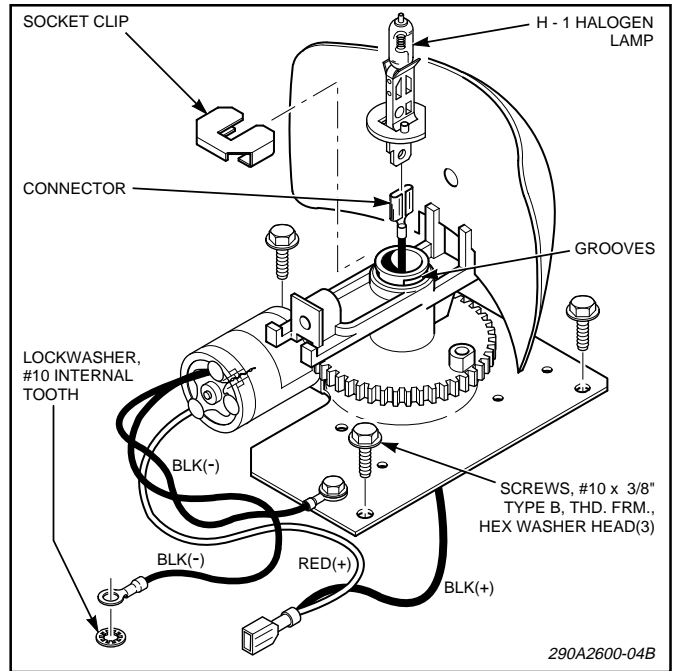

Figure 3.
7. Secure the rotating light assembly to the extrusion with the three #8-32 hex hd. thd. form. screws as shown in figure 3.
8. See figure 3. Connect the female terminal on red and black wires of rotating light assembly to the